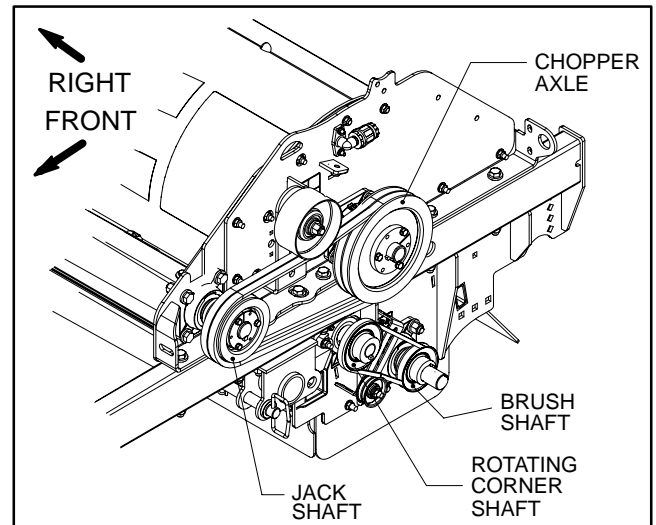
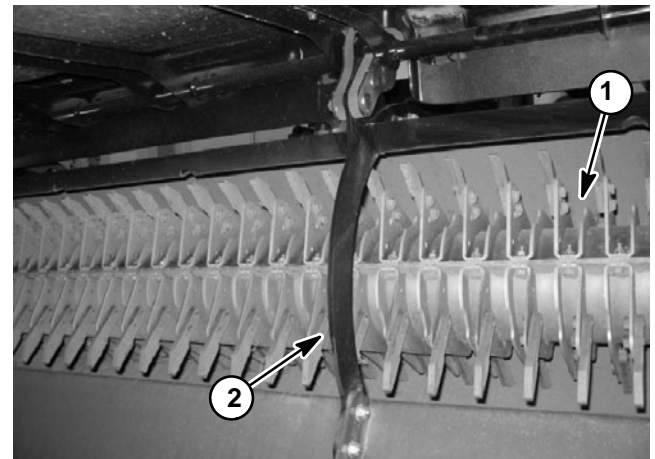

Figure 20
Figure 22
3. Remove belt covers from both sides of chopper axle (Figs. 20 and 21) (see Drive Belt Covers in this section).
6. Remove two (2) set screws that secure pulley (item 14) to right end of chopper axle. Slide pulley from shaft. Locate and retrieve square key (item 16).
7. Remove four (4) screws, washers and lock nuts that secure reinforcing ring (item 8) to chopper housing (Fig. 22). Remove reinforcing ring.
- A. If removed, attach bearing to endplate with four (4) carriage screws, flat washers and lock nuts.
- C. Align holes in endplate and machine frame. Secure endplate in position with seven (7) carriage screws and flange nuts.
4. Position reinforcing ring (item 8) to chopper housing and secure with removed fasteners (Fig. 22).